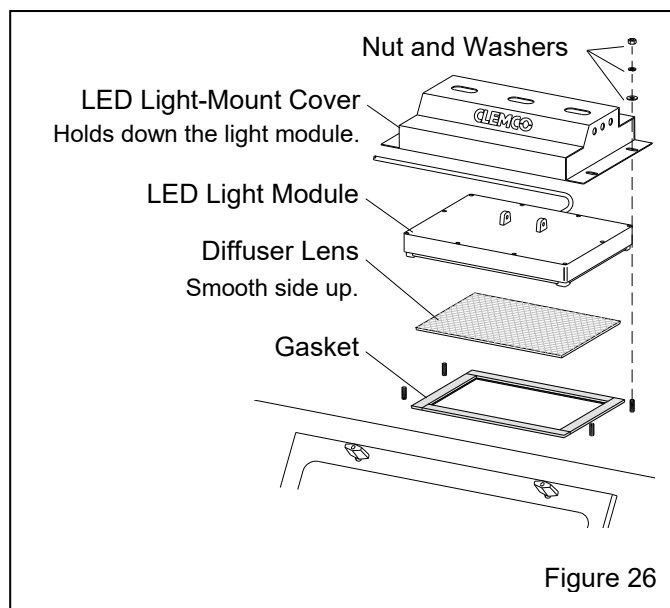

Figure 26
7.7 LED Light Assembly – Figure 26
7.7.1.2 Remove the four nuts and washers that attach the light-mount cover to the cabinet and remove the cover, as shown in Figure 26.
7.7.2.3 Lay a section of strip gasket along the edge of the opening and cut to length, allowing 3/4" overlap on each end. Peel a short section of adhesive backing and adhere the strip gasket to the top edge of the light opening, as shown in Figure 26. Press the gasket to bond. Repeat the process for each side, compressing the ends to seal.